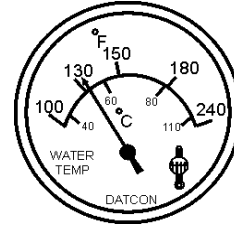

Figure 54. Coolant Temperature Gauge
18. The **coolant temperature gauge** (Figure 54) will indicate the coolant temperature. Under normal operating conditions the coolant temperature should be between 165 and 215 degrees Fahrenheit (**Green Zone**).